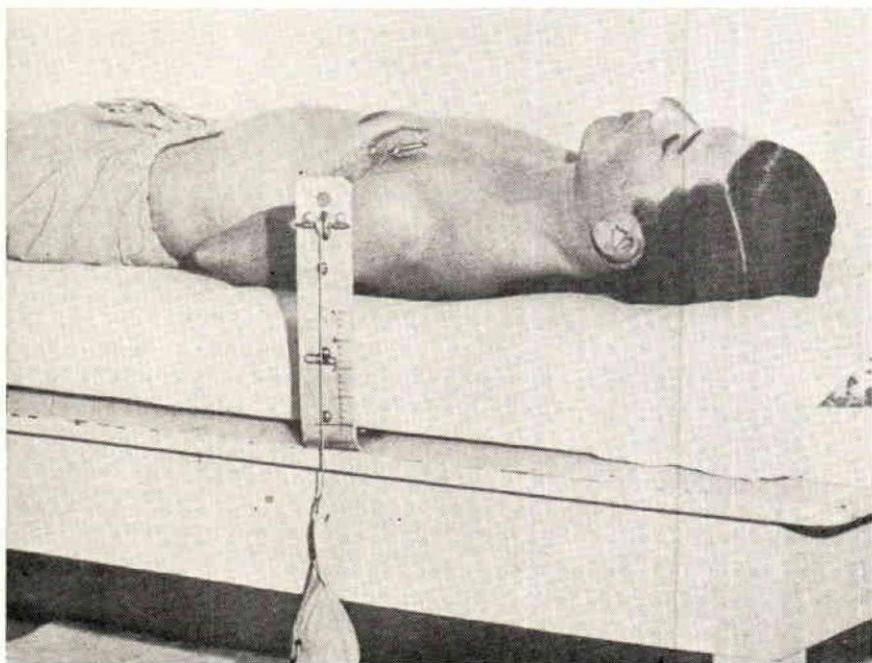

Fig. 4. Patient Using Stretching and Resistance Unit. (End of Muscle Contraction.)
*The muscle pin and linkage unit.* Originally a "question mark" shaped pin (see Figure 4) was used through the "muscle motor." This was connected through the pulley of the device by means of a twenty-four inch Northrup Cable. Later, however, as the "muscle motor" became stronger this pin had a tendency to slide out. This necessitated the development of the pin and linkage shown in Figure 2. A Northrup Cable, eighteen inches long was used with this unit. The pin was made of  $\frac{1}{4}$  inch stainless steel internally threaded on both ends. The internal threads were used to prevent scratching of the inside of the muscle tunnel. (In addition to this, one half